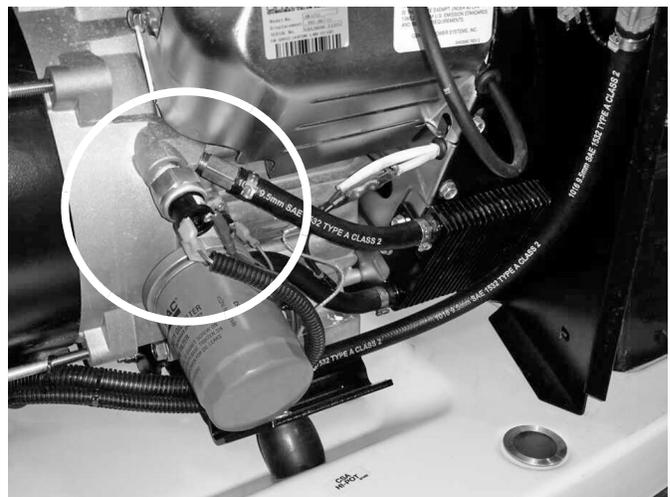

Figure 3-5.
6. Wire to low oil pressure sensor and use convoluted tubing (wire goes from oil sensor, under the engine, through the back of the engine divider panel, and ends at the relays) (see Figure 3-5)